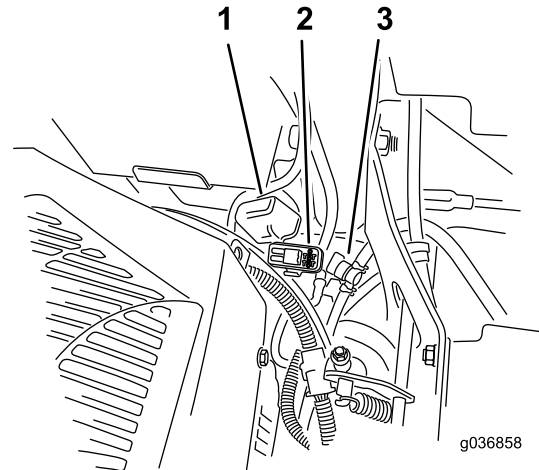

Figure 78
Note: For MyRide machines, ensure that the ground cable does not rub against the trailing arm or lower shock mount (Figure 78).
The fuses are located on the right console next to the seat (Figure 78).
2. Install a new fuse (Figure 78).